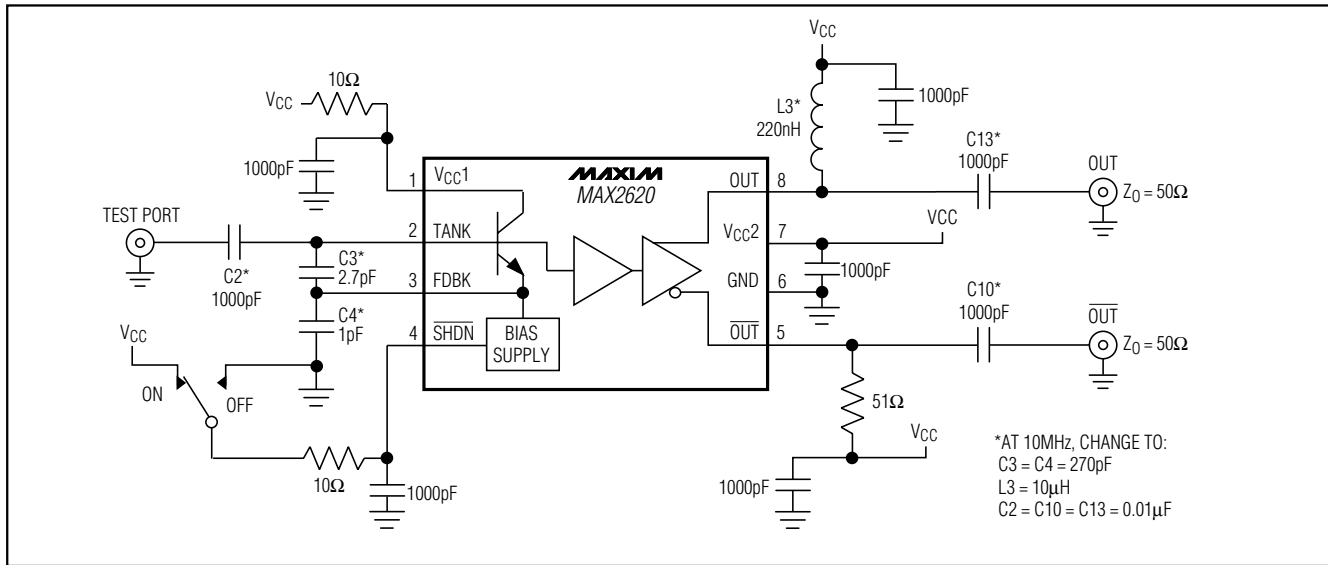

Figure 1. 900MHz Test Circuit
(Test Circuit of Figure 1, V_{CC} = +3.0V, $\overline{\text{SHDN}}$ = V_{CC}, Z_{LOAD} = Z_{SOURCE} = 50Ω, P_{IN} = -20dBm (50Ω), f_{TEST} = 900MHz, T_A = +25°C, unless otherwise noted.)
(Test Circuit of Figure 1, $V_{CC} = +3.0V$, $\overline{SHDN} = V_{CC}$, $Z_{LOAD} = Z_{SOURCE} = 50\Omega$, $P_{IN} = -20dBm/50\Omega$, $f_{TEST} = 900MHz$, $T_A = +25^\circ C$, unless otherwise noted.)
*SEE FIGURE 1
At the frequency of interest, the MAX2620 portion of Figure 2 shows the one-port circuit model for the TANK pin (test port in Figure 1).
Both of the MAX2620's outputs (OUT and $\overline{\text{OUT}}$) are open collectors. They need to be pulled up to the supply by external components. An easy approach to this pull-up is a resistor. A 50Ω resistor value would inherently match the output to a 50Ω system. The *Typical Operating Circuit* shows $\overline{\text{OUT}}$ configured this way. Alternatively, a choke pullup (Figure 1), yields greater output power (approximately -8dBm at 900MHz).